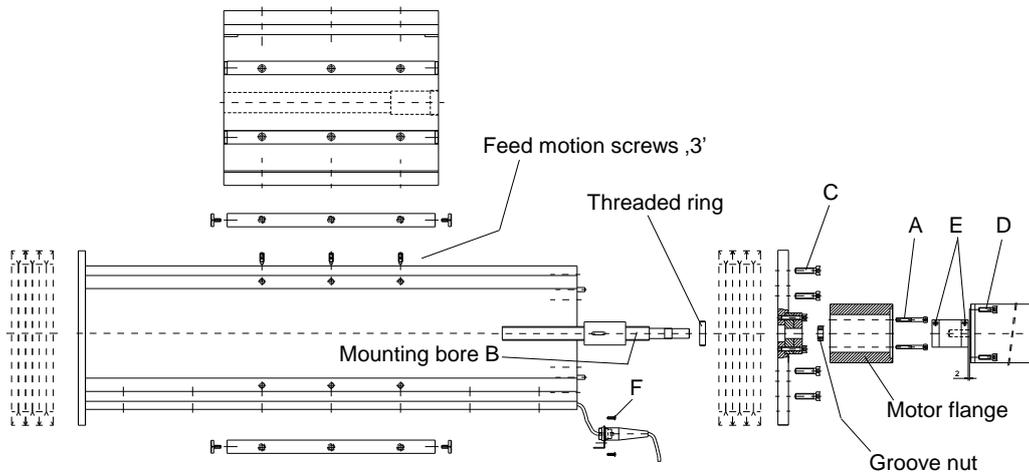
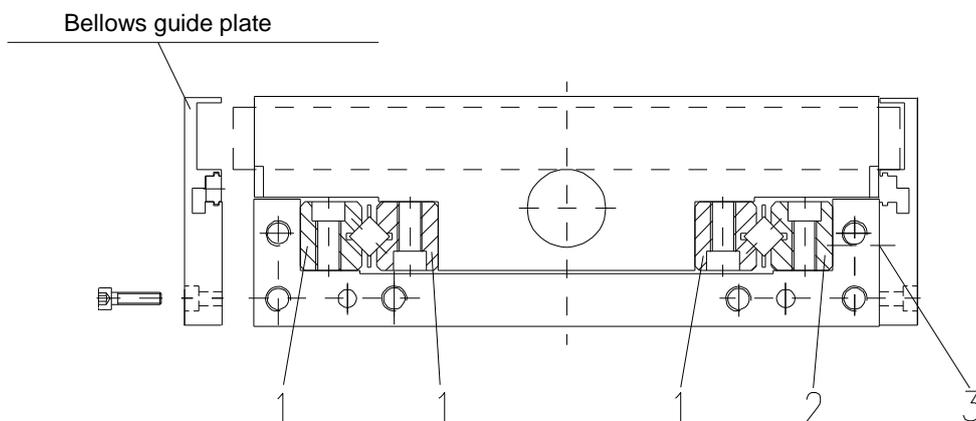

Figure 27: Installation provision for longitudinal guides
Figure 29: Replacing roller guide (figure 2/2)
Proceed as follows to install a longitudinal guide (see *Figure 27* to *Figure 29*, page 33):
- (1) Push again the support when installing the guide rails 1 (see item 1, 2 in *Figure 29*, page 33) and tighten the attachment screws. Then check the parallelism of the rails 1 to the application area.
- (2) Install the rails 2 and tighten the attachment screws slightly.
- (3) Retract the cages. Observe that the end positions of the rails must not exceed the cages.
- (4) Set the guide/play with the feed screws 3. Advice: The play-free setting of the guide can be performed more sensitively if the dead weight is balanced out by lifting.
- (5) Ensure even feed to the right and left. Feed must take place from the centre of the table. Feed is only permitted where the cage interlocks.
- (6) Tighten the attachment screws of the guide rails well.
- (7) Apply a certain pre-tension to the guide. The pretension essentially depends on the construction's stiffness. Observe that a high pre-tension will essentially impair the service life.
- (8) Attach the end screws and end pieces after you have reviewed the set guide.
- (9) Push the axial bearing unit with end plate onto the spindle seat without force application.
- (10) Tighten the groove nut well, secure the groove nut and tighten the screw C (see *Figure 27*, page 33).
- (11) Test the alignment of the pin bores of the end plate to the carriage outer part.
- (12) Apply new pins when the pin bore of the end plate is not aligned with the outer part of the carriage.
- (13) Place the end switch cable reserves in the end plate. Observe that the cable is not bent or crushed.
- (14) Screw the end switch wiring socket to its attachment sheet with screw F (see *Figure 27*, page 33) an.
- (15) Install the bellows balancing plates or bellows guide plates.
- (16) Install the motor flange.
- (17) Apply the motor with the coupling.
- (18) Tighten the attachment screws D (see *Figure 27*, page 33) well.
- (19) Tighten the clamping screws E (see *Figure 27*, page 33) well.
- (20) Install the PG screw to the motor flange.
- (21) Insert the bellows. Observe that there are no contaminations between the hook-and-loop tapes.